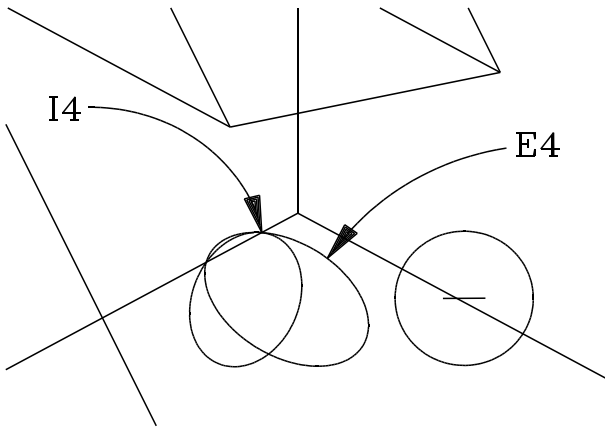

Figure 16
46. Click on E4 (the right side of the second ellipse), then click on I4 (the other side of the intersection of the second ellipse and the line). (See Figure 16.)